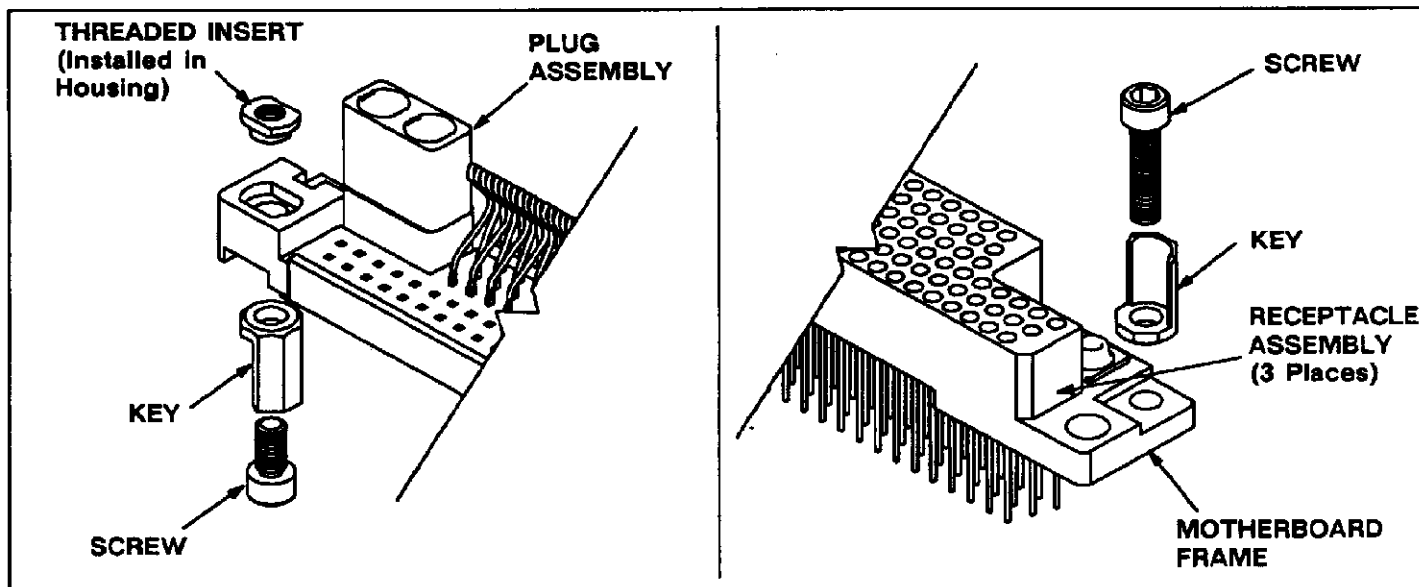

Fig. 2
3. KEY INSTALLATION (Figure 2)